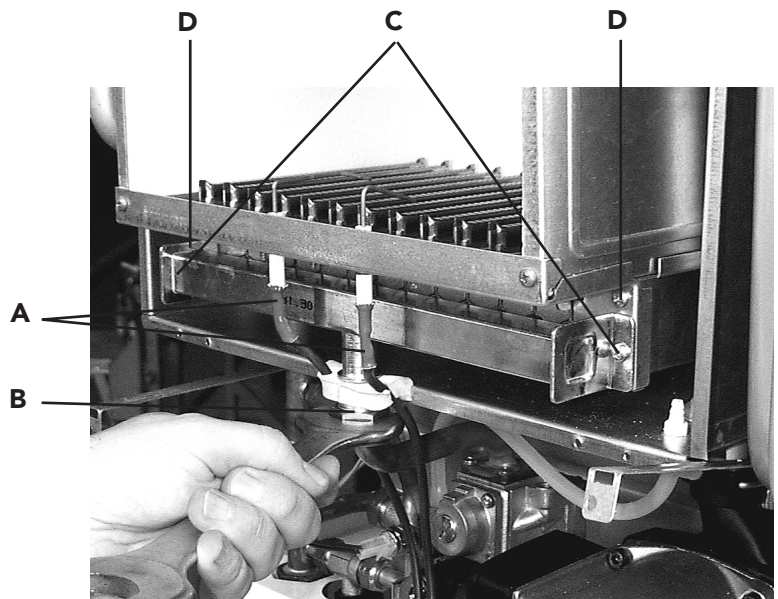

Fig. 35
7.08 Removal of burner (fig. 35)
7.09 Injectors (fig. 35)
- Identify the location of thermostat from fig. 35